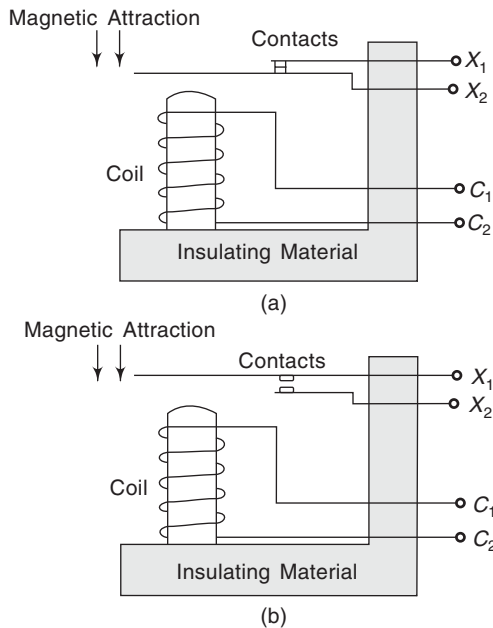

Fig. 7.17 Physical Representation of an Electromechanical Relay: (a) Normally Closed (NC) Relay, (b) Normally Open (NO) Relay.
Another switching device is the *electromechanical relay*. An electromechanical relay has contacts like a manual switch, but *it is controlled by external voltage* instead of being operated manually. Figure 7.17 shows the physical layout of an electromechanical relay. In Fig. 7.17(a) the magnetic coil is energised by placing a
voltage across terminals C_1 - C_2 ; this will cause the lower contact to bend downward, opening the contact between X_1 and X_2 . This relay is called a *normally closed (NC)* relay because, at rest, the contacts are touching, or *closed*. In Fig. 7.17(b), when the coil is energised, the upper contact will be attracted downward, making a connection between X_1 and X_2 . This is called a *normally open (NO)* relay because, at rest, the contacts are not touching, or *open*.